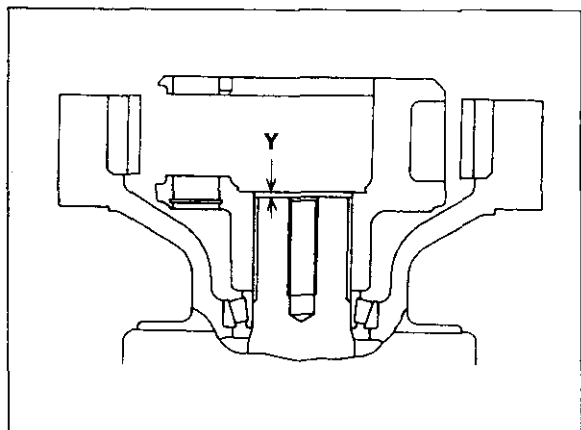

Fig. 2-386
The measurement position of the height difference (Y) is shown in Fig. 2-386.